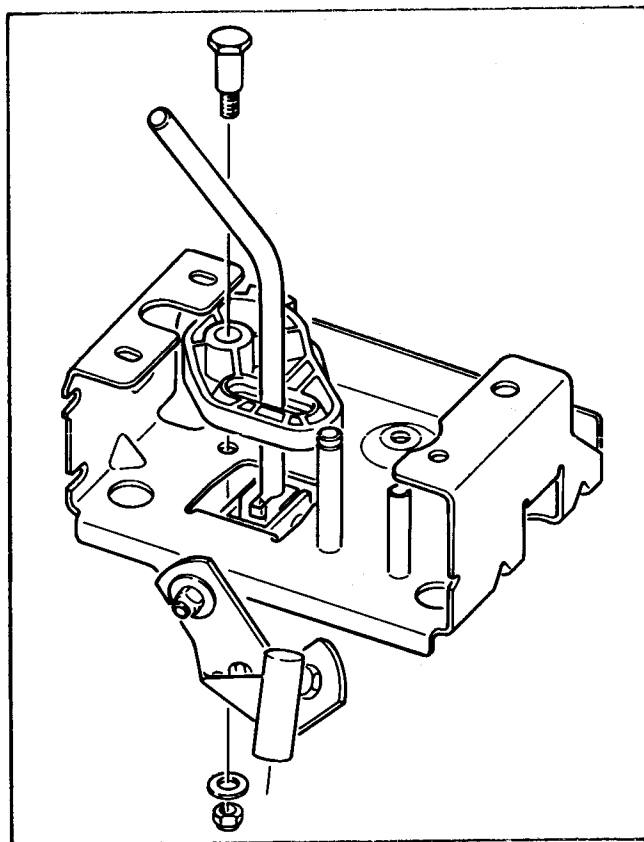

Figure 35
5. Slip the lock out base over the shift lever and secure with the shoulder bolt, flat washer and the nylon locknut. Make sure that the lockout base moves freely after installation. See Figure 35.